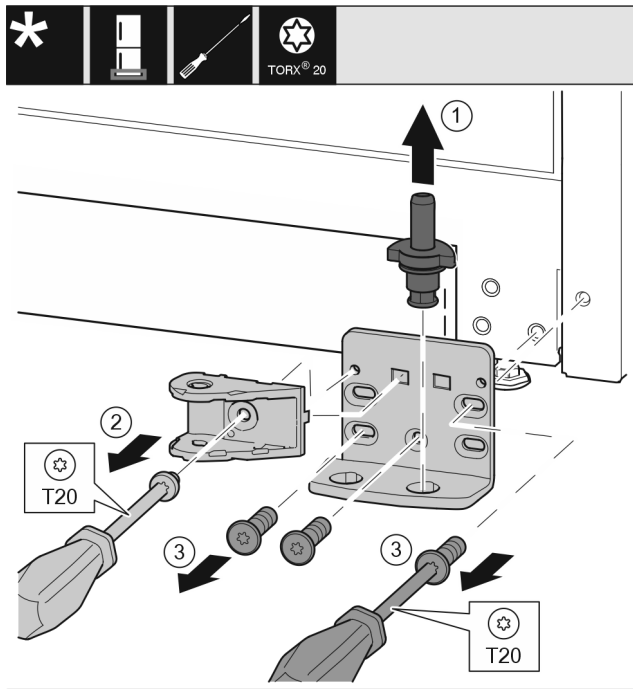

Fig. 34 *
- ▶ Completely pull out the bearing pin Fig. 34 (1) upward.*
- ▶ Use a screwdriver to unscrew the screw Fig. 34 (2) and remove the closing damper connection.
- ▶ Use a screwdriver to unscrew the screws Fig. 34 (3) and remove the swap bearing block.*